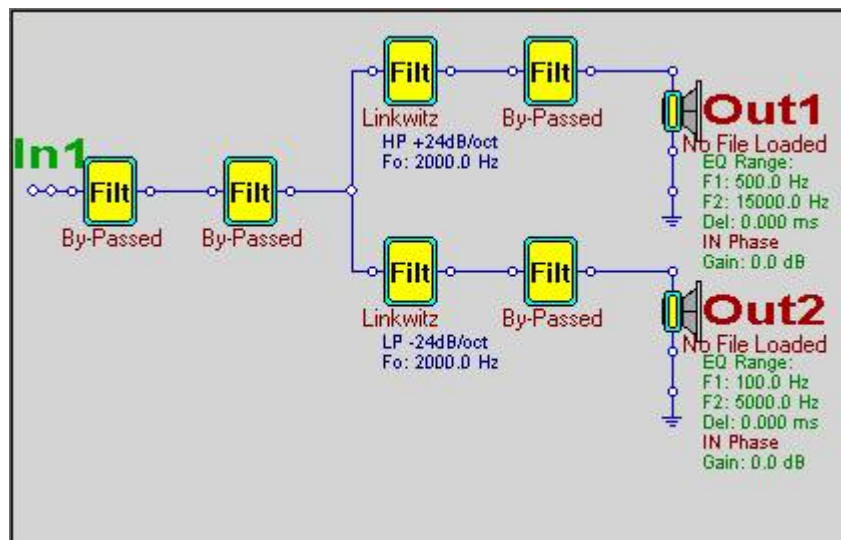

Figure 132. Cad screen appearance after setting the woofer and tweeter targets and bypassing remaining components.
- For the moment the remaining filter blocks in the woofer and tweeter branch will be bypassed as was done for the voicing elements. Thus, the front left channel CAD screen will appear as shown in Figure 132 when this is done.